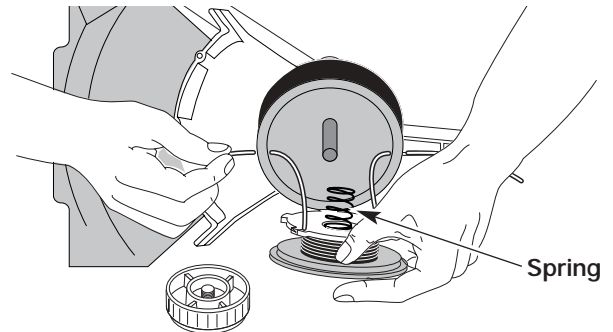

Fig. 59
- Insert the ends of the line through the eyelets in the outer spool and place inner reel with spring inside the outer spool (Fig. 59). Push the inner reel and outer spool together. While holding the inner reel and outer spool, grasp the ends and pull firmly to release the line from the holding slots in the reel.
- Insert the ends of the line through the eyelets in the outer spool (Fig. 59).